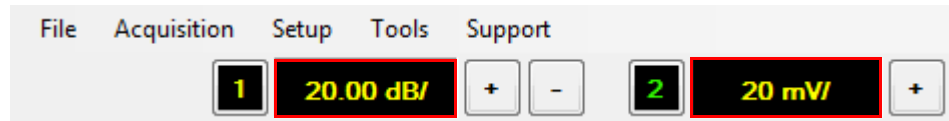

Figure 2-5 Vertical scale area on the graphical interface
- 1 Select the vertical scale area for the desired channel on the graphical interface as shown in Figure 2-5.
- 1 Select the vertical scale area of the desired channel at the top of the graphical interface to access the Channel Setup dialog as shown in Figure 2-5.